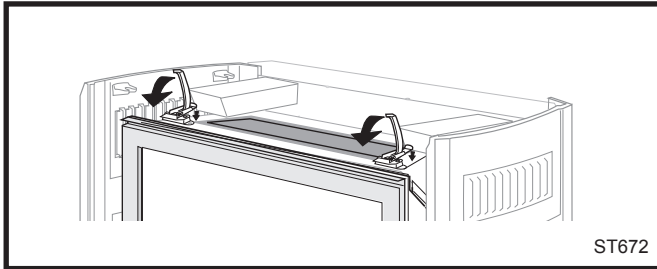

Fig. 21 Set glass frame in place and secure latches.
8. Install glass frame assembly by resting the bottom edge of the frame on support brackets below the front opening of the firebox. Swing the top edge of the assembly toward the firebox, and center it. Fasten by closing the latches over the top left and right edges of the frame. (Fig. 21)